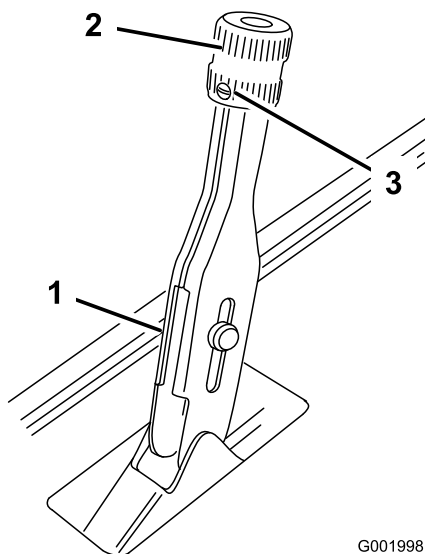

Figure 61
1. Loosen the set screw securing the knob to the parking brake lever (Figure 61).